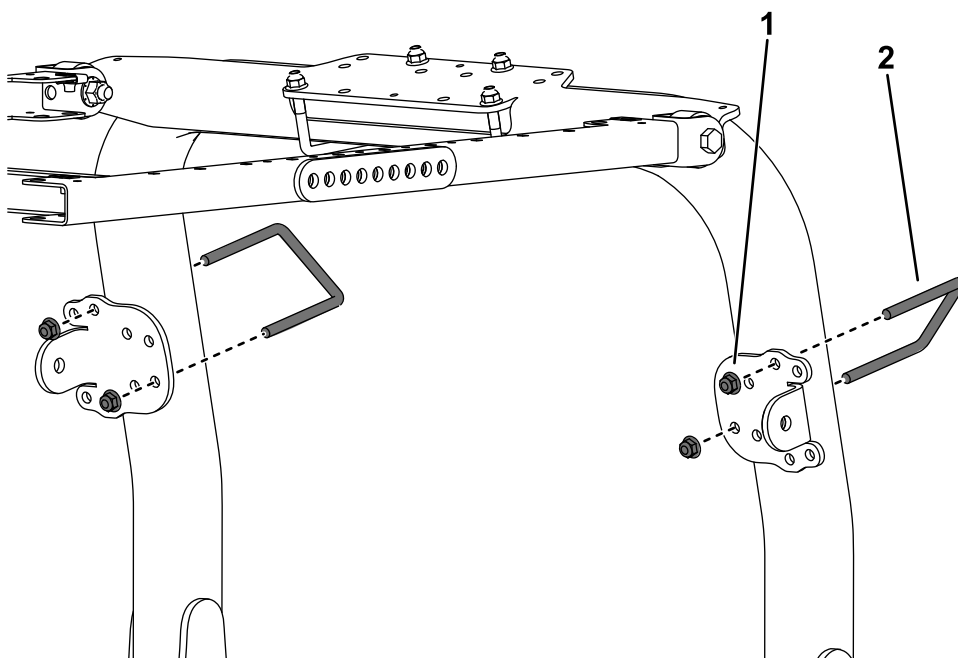

Figure 32
9. Using the mounting holes shown in Figure 32, loosely secure each of the brace brackets to the